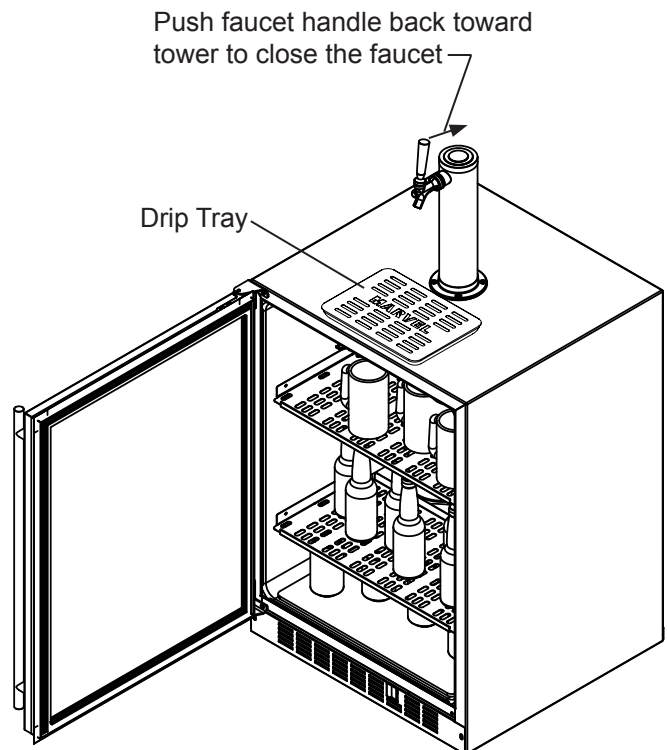

Figure 24
2. Be sure the faucet handle is closed on the tower (see Figure 24).
Place drip tray on top of cabinet in front of tower as shown in Figure 24.